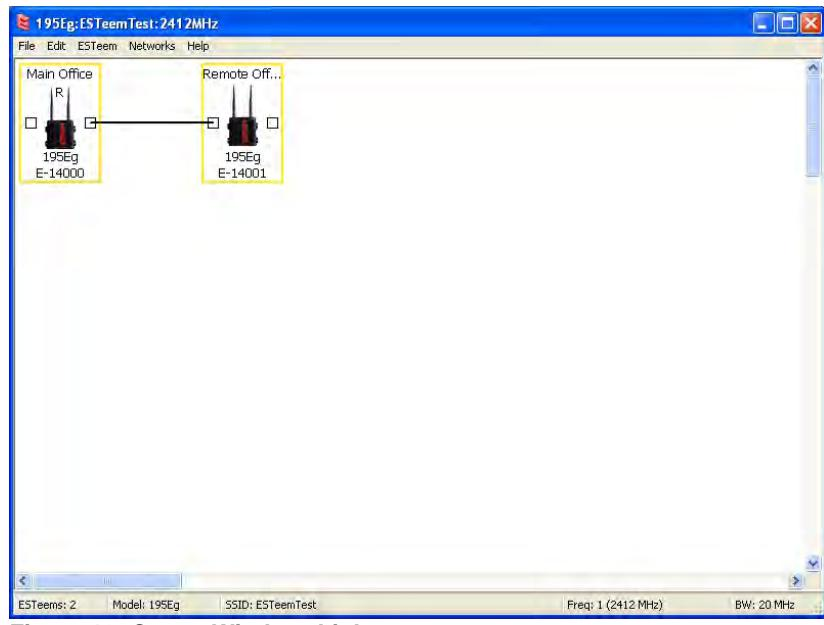

Figure 13: Create Wireless Link
1. Add the two ESTEEM Model 210s to the network using the above procedure. Once both ESTEEM 210s are on the configuration page, create a wireless link by clicking on one of the two connection boxes and dragging a line to the other modem (Figure 13).